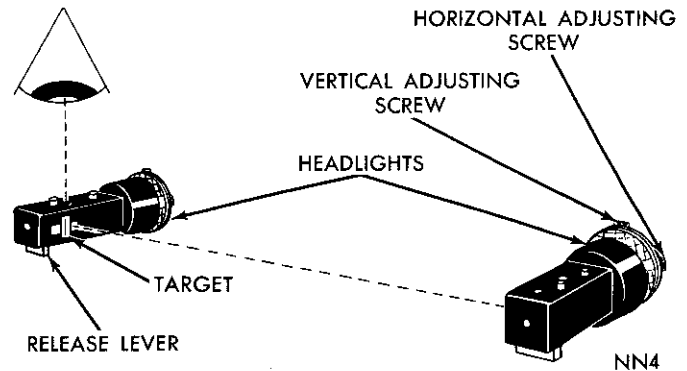

Fig. 4—Mounting and Adjusting Aimers
- (2) Push release lever forward (to expel air from suction cup) and while holding aimer firmly against headlight aiming pads, slowly pull release lever back until spring lock engages in the slot, (Fig. 4).
- (3) Mount second aimer on other side of vehicle, in the same manner.
- (4) On each aimer, set pointer to numeral 2 on **DOWN** side of **DOWN-UP** scale.
- (5) On each aimer position pointer, of **RIGHT-LEFT** scale, at **2-RIGHT**.